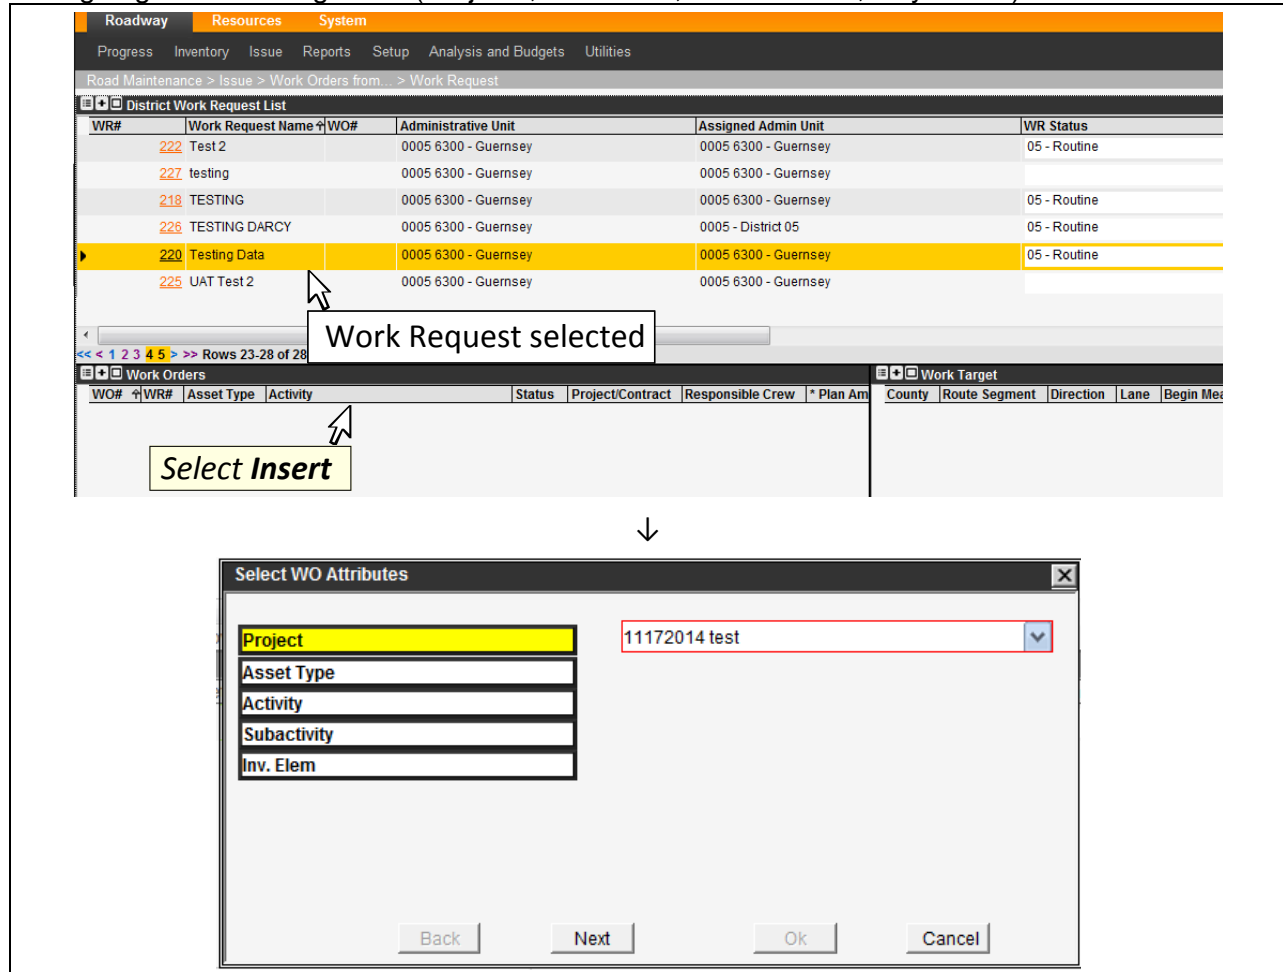

Figure 5-4. Issue ~ Work Request Window
4. In the Work Orders pane (lower-left) of the window (Figure 5-4), perform an **Insert** function to begin creating a Work Order.
5. In the Select WO Attributes dialog box (Figure 5-4), configure the Work Order as requested in the Work Request (in whole or in part), as follows: